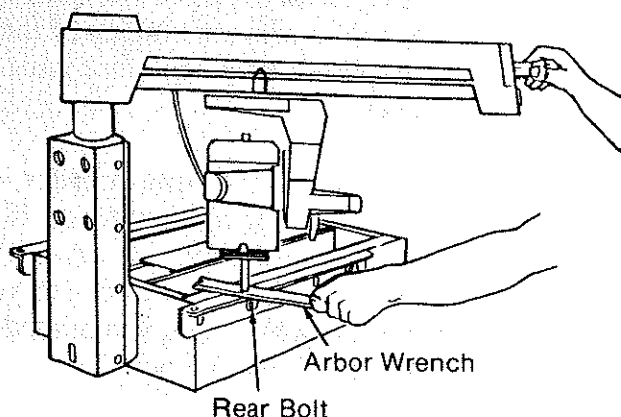

Fig. 38
6. Turn the *motor* until the *arbor shaft* is pointing straight down toward the *saw*. (Figure 38)
9. Unlock the *rip lock* and move the *motor* until the *arbor shaft* is over the left *table support*. (Figure 38)
11. Place the handle end of the *arbor wrench* over this point and lower the *arm* until the *arbor shaft* is just touching the *wrench*. The *wrench* should slide back and forth with slight contact. (Figure 38)